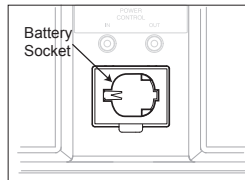

Figure 3
4. Referring to figures 3, 4 and 5 insert the battery